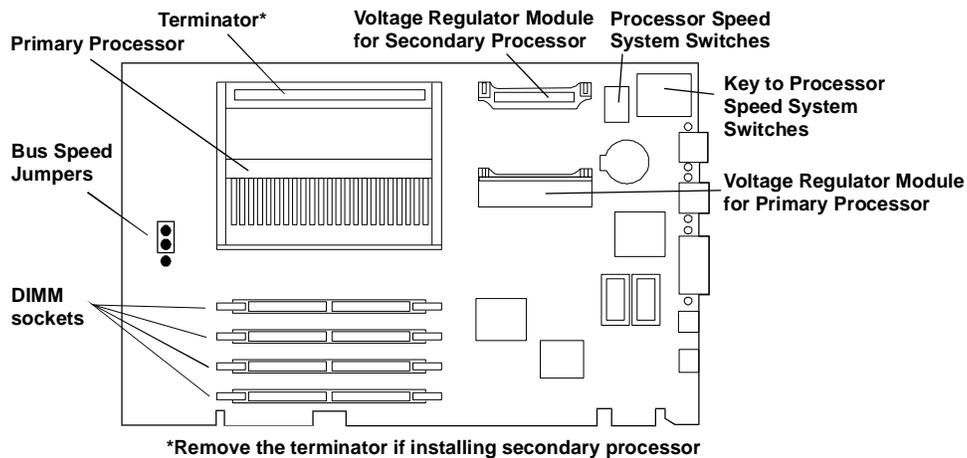

Figure 1-9. System Board Component Identification
Familiarize yourself with the components on the system board (see Figure 1-9). Note the location of the processor slots, Voltage Regulator Module slots, and processor speed switches.
1. Locate the switches and the switch chart at the upper right corner of the system board (see Figure 1-9).